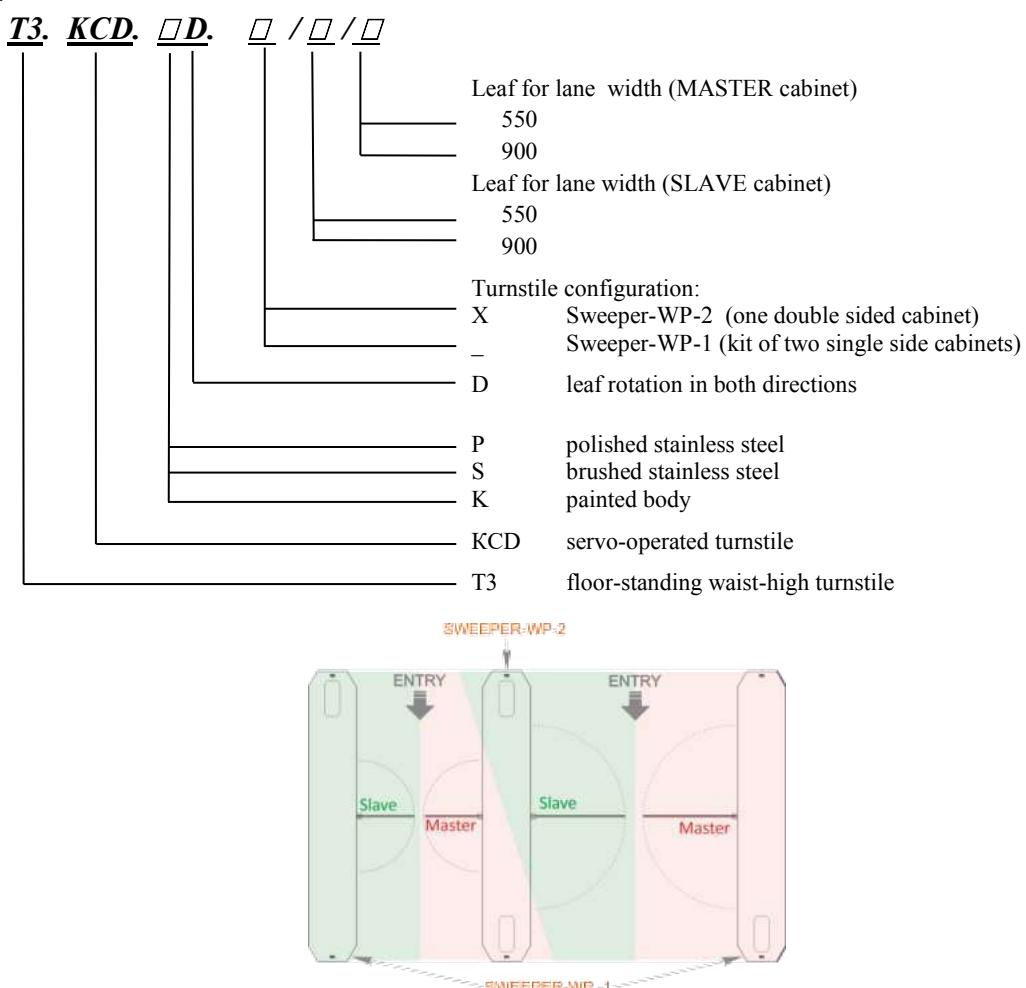

Fig. 1 – Definition of the turnstile component description
2) For arrangement of two or more lanes the turnstile "Sweeper-WP-1" is a set of two one-leaf cabinets (reference designation T3.KCD.XD) (Fig.1 b) and one or more auxiliary cabinets "Sweeper-WP-2" (Master/Slave) with two swing leaves (reference designation T3.KCD.XD.X).